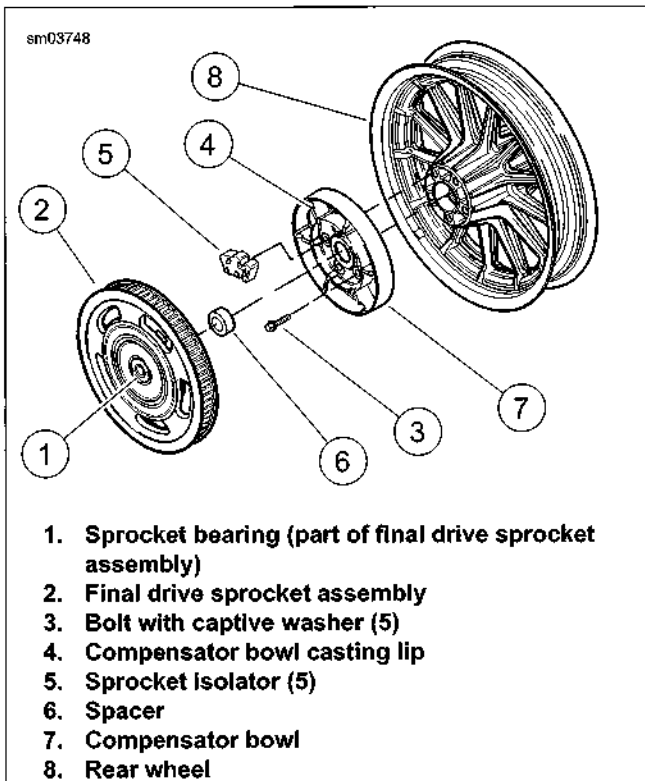

Figure D-1. Compensating Sprocket
2. See Figure D-1. Remove final drive sprocket assembly (2) and spacer (6).
3. Pull sprocket isolators (5) from compensator bowl (7).
1. See Figure D-1. Wipe inside of compensator bowl (7) and final drive sprocket (2) with a clean, damp cloth.
2. Inspect sprocket bearing (1). If bearing surface is rough or if bearing was leaking grease, replace bearing. See D.2 COMPENSATING SPROCKET, Sprocket Bearing.
3. Inspect sprocket isolators (5) for damage, deterioration, missing chunks or excessive debris beyond normal wear marks. Replace if necessary.
- See Figure D-1. Only remove compensator bowl (7) from rear wheel (8) if necessary. Bolts (3) are one-time usage only. If removed, they must be discarded and replaced with **new** bolts.
1. See Figure D-1. If compensator bowl (7) was removed, install bowl onto rear wheel with **new** bolts with captive washers (3). Tighten bolts:
3. See Figure D-1. Install spacer (6) by placing on bowl casting lip (4).